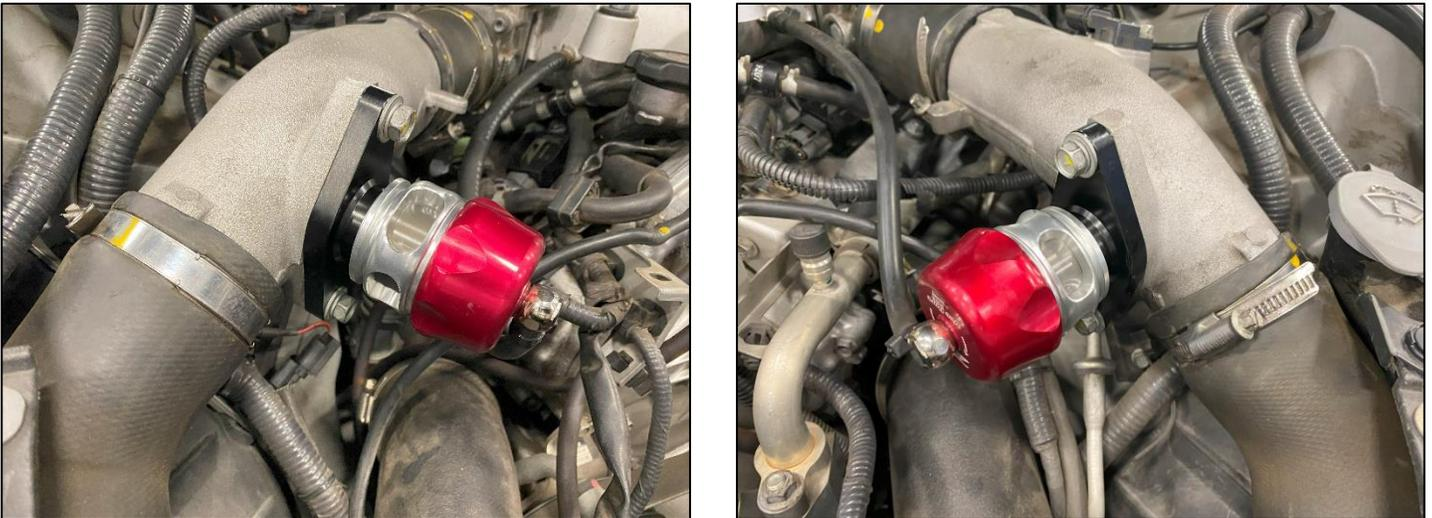

Figure 9
17. Repeat Steps 3-16 for the Driver Side of the car. *Figure 9.*